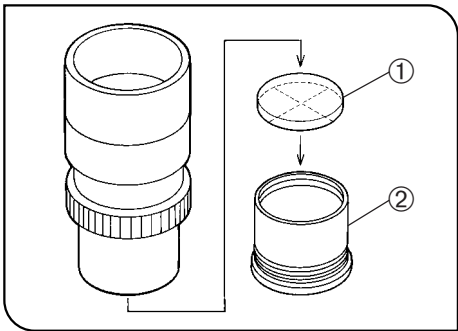

Fig. 25
4 Using Eyepiece Micrometer Disks (Fig. 25)
Following Fig. 25, turn the built-in micrometer mounting frame ② counter-clockwise to remove it from the eyepiece and place a micrometer disk ① into the mounting frame. The engraving on the micrometer disk should face downward into the micrometer mounting frame.